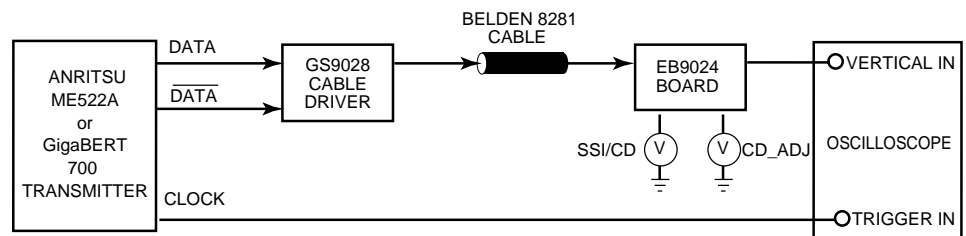

Figure 2-2: Test Setup for Figure 4-2, Figure 4-3, Figure 4-4, Figure 4-5, Figure 4-8, and Figure .
5. Evaluated using test setup Figure 2-2.